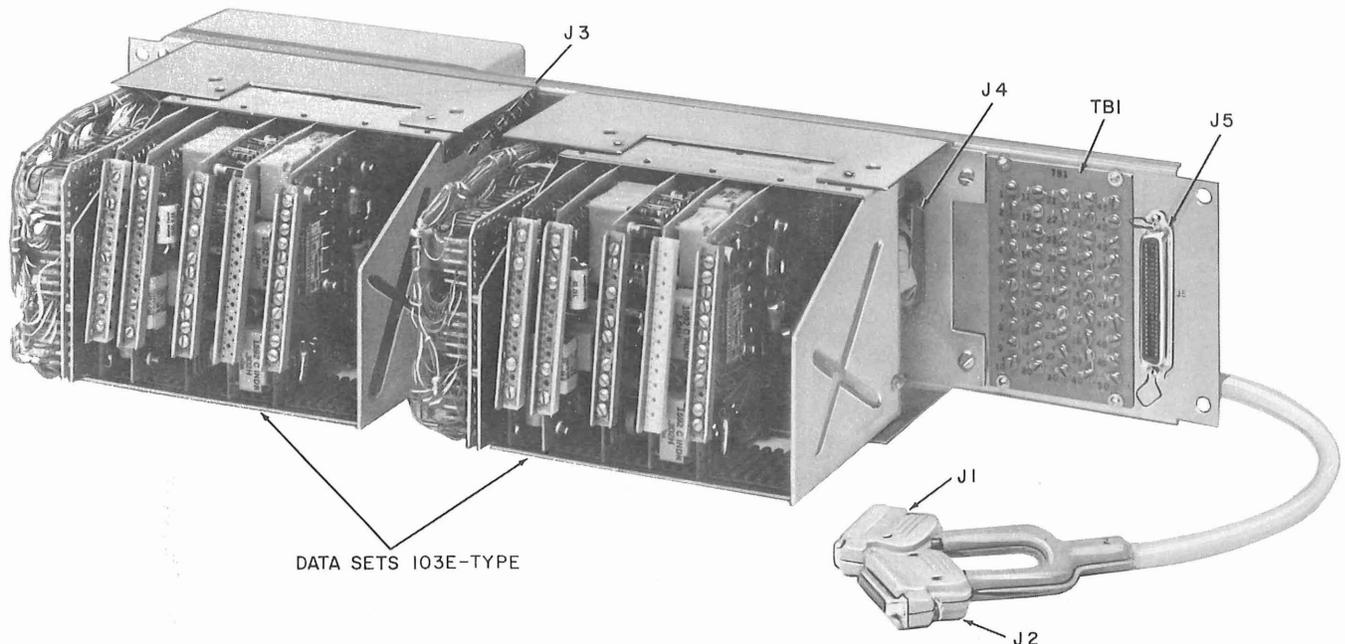

Fig. 7—2A1 Data Mounting With Data Sets 103E-Type Installed
2.11 The 2A1 Data Mounting provides for the installation of two Data Sets 103E-type (Fig. 7) and contains the data set circuits required in a complete 103E Data Station installation. A completely equipped KS-20093-L1 cabinet would require 20 2A1 Data Mountings providing for the mounting of 40 Data Sets 103E-type (not equipped with Data Auxiliary Sets 801-type).